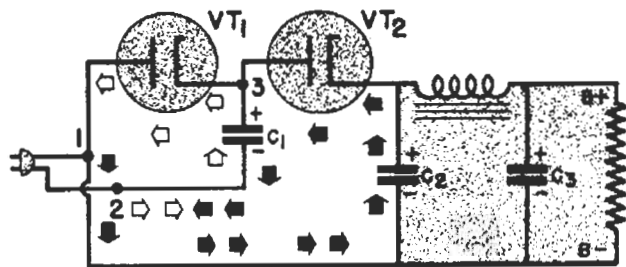
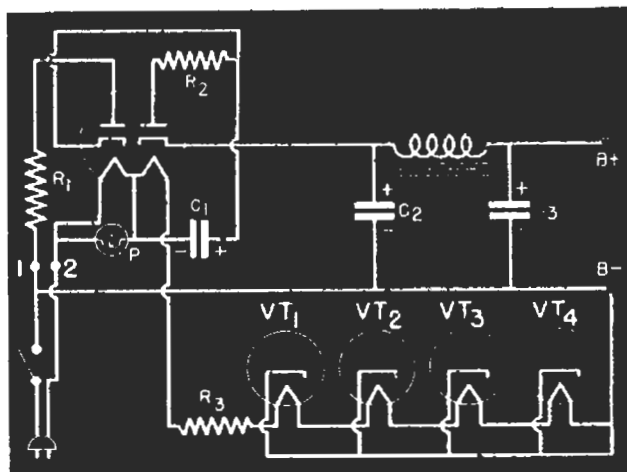

FIG. 13. The half-wave voltage doubler.
FIG. 14. A typical commercial half-wave voltage doubler.
Like the full-wave voltage doubler, the half-wave voltage doubler uses a condenser as a voltage source—but as a source of voltage for a rectifier tube. Fig. 13 shows the basic circuit.
► Notice that the  $B-$  terminal connects to one side of the power line in Fig. 13. This means that when the filament string is connected across the power line, there will be no d.c. volt-
A complete half-wave voltage-doubler circuit is shown in Fig. 14. The action is identical to that of Fig. 13 as far as the B supply is concerned. Protective resistors  $R_1$  and  $R_2$  are used in series with the plates; also the pilot lamp  $P$  and its shunting section of the filament are between condenser  $C_1$  and terminal 2—which is another protective feature. The current flow